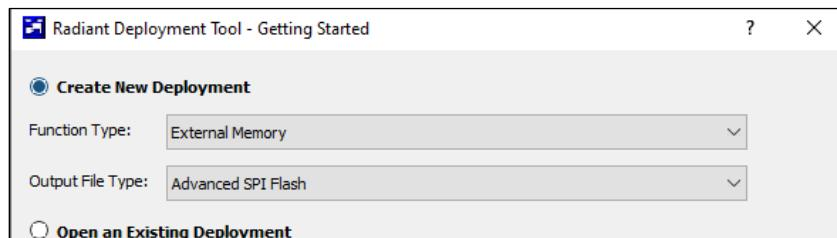

Figure 8.62. Options for Creating New Deployment
5. Apply the settings as shown in Figure 8.62 and click **OK**.